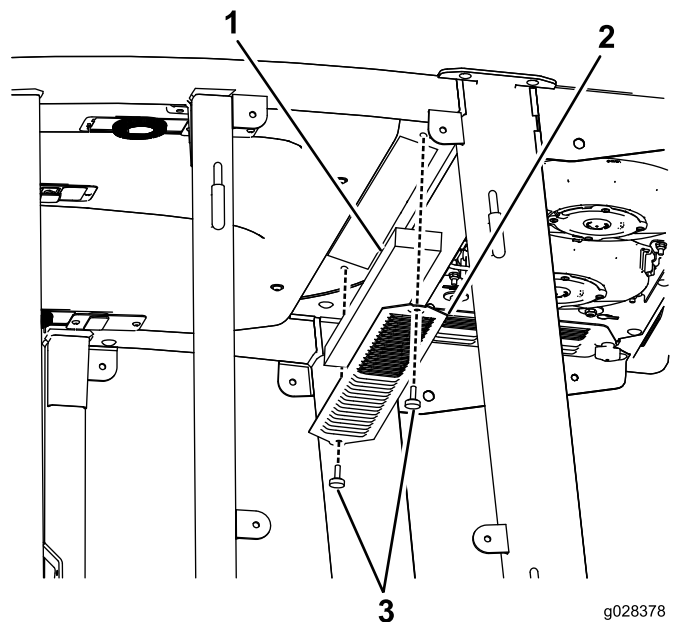
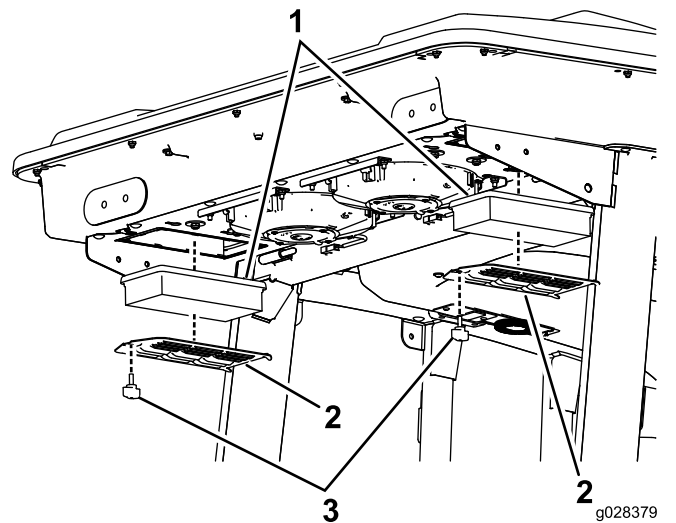

Figure 53
Figure 54
1. Remove the screws and grates from both the in-cab and rear cab air filters (Figure 53 and Figure 54).